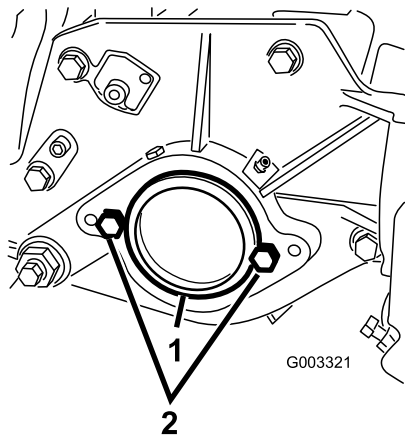

Figure 7
3. On right end of cutting unit, remove the plastic plug from the bearing housing (Figure 7).
4. Remove the 2 cap screws from the right side plate (Figure 7).
2. Cap screw (2)
6. Loosely install the 2 reel motor mounting cap screws to the left side plate of the cutting unit (Figure 7).